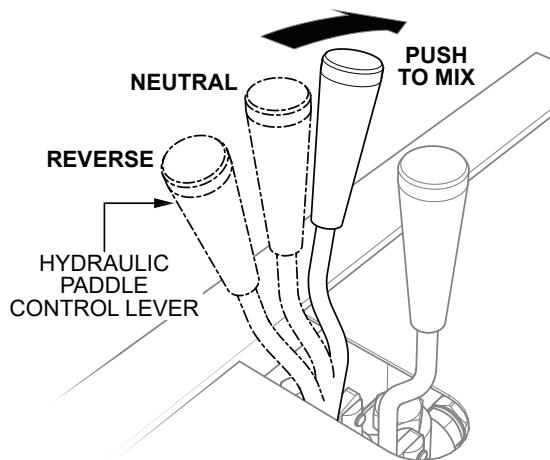

Figure 25. Hydraulic Paddle Control Lever (Mix Position)
1. Push the hydraulic paddle control lever (Figure 25) forward for clockwise mixing rotation of the paddle blades.